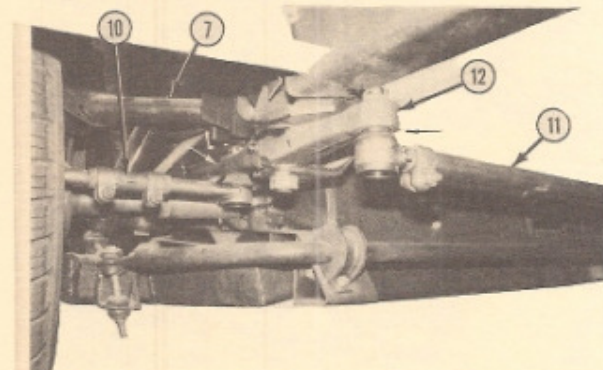

Figure 124 – Steering Linkage
NOTE: Be sure that stainless steel washers and Teflon lubricator disc are in place (see figure 124), except on later models which use a flanged bushing.
- b. Torque nut down to 100-150 ft. lbs. so as to allow arm to be moved with one hand firmly with no up and down movement (see figure 124).